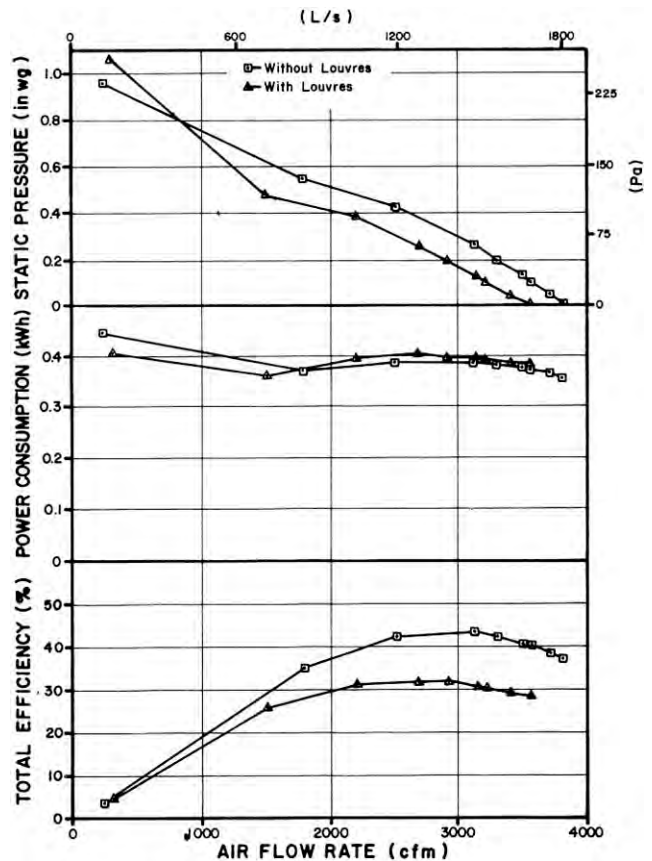

FIGURE 4. Effect of Louvres on Fan Performance.
**Effect of Louvres:** The optional louvres were installed on the outlet side of the fan to determine their effect on fan output. The fan was tested under these conditions in the single speed direct mode only. Using the louvres reduced the air flow rate by 6 to 14% (FIGURE 4) over the typical range of operation. For example, at a static pressure of 0.125 in wg (31.1 Pa), the louvres reduced the air flow rate by 10%, from 3520 cfm (1660 L/s) to 3160 cfm (1490 L/s) (TABLE 1). The efficiency was in turn